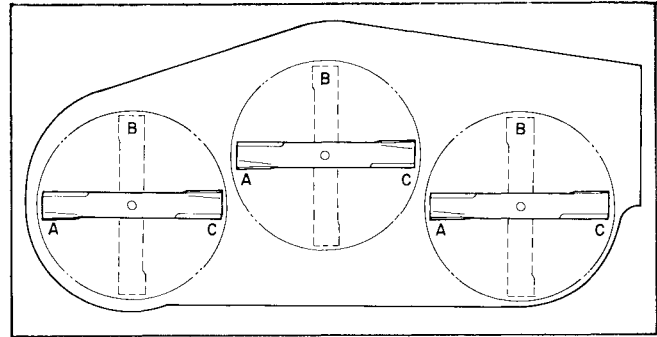
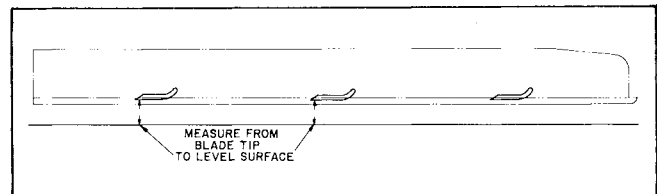

Figure 27
Figure 28
5. Position all three blades in the "A" position (Fig. 27) and measure from level surface to the bottom of the tip end of each blade (Fig. 28).
6. Note measurement attained at "A", rotate blades to "B" position (Fig. 27), measure distance of all blades to level surface and note dimensions (Fig. 28).
7. Rotate blades to "C" position, measure and note distance measured (Fig. 27, 28).